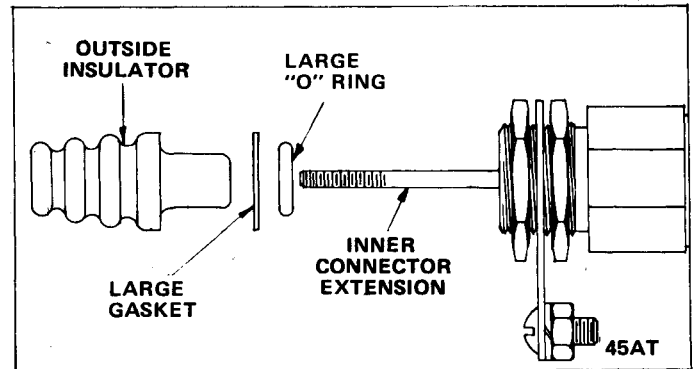

FIGURE 6
STEP 6. 45AT ONLY. Apply thin coating of silicone grease to large and small "O" rings. Slip large gasket and large "O" ring onto outside insulator, then slide assembly over inner connector extension and into outer body. Refer to Figure 6.